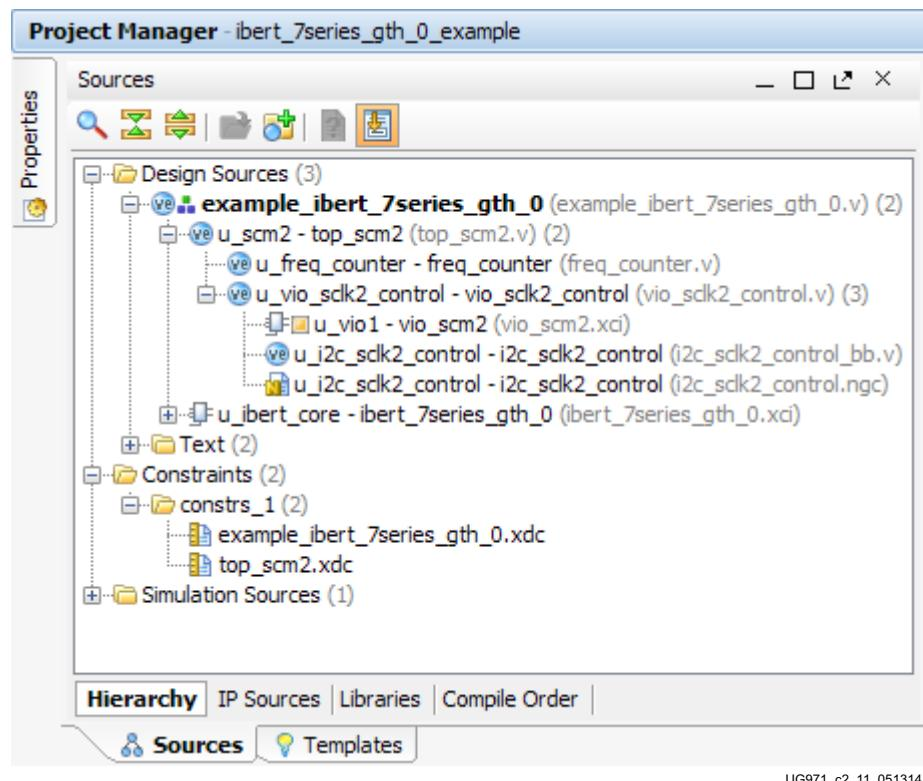

Figure 2-11: Design Sources File Hierarchy
13. In the Sources window, Design Sources should now reflect that the SuperClock-2 module is part of the example IBERT design (Figure 2-11).